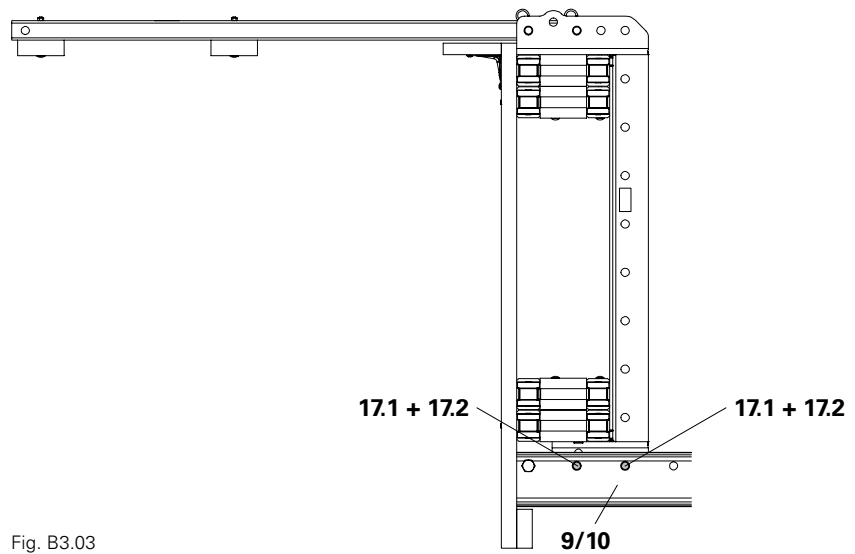

Fig. B3.03
3. Bolt Platform Beam SCS 120 (**17**) using 2x fitting pins $\text{\O} 21 \times 120$ (**17.1**) per strongback (**9/10**) respectively and secure with cotter pins 4/1 (**17.2**). (Fig. B3.03)